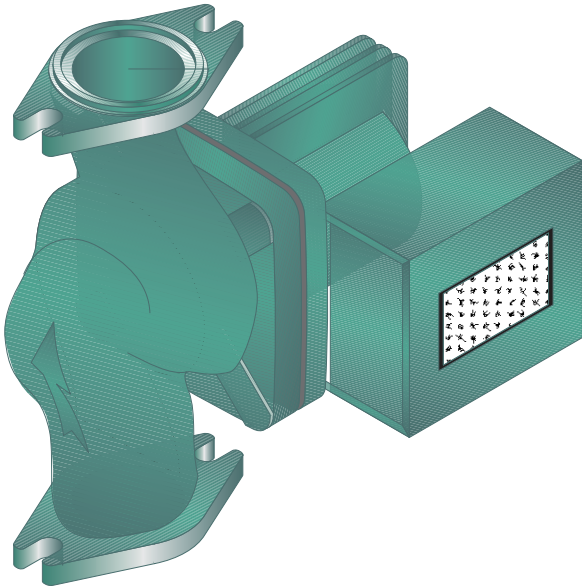

Figure 2.3: FLEX-HEAT® Circulator, Typical
1. FLEX-HEAT® Circulator Kits include a Taco Series 00 circulator with built-in relay to control the circulator (Figure 2.3).